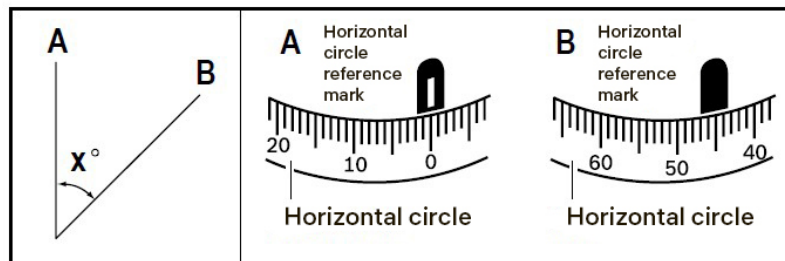

Figure 6
- Focus the device on the rod A. Rotate the horizontal circle (2) until the "0" mark is aligned with the reference mark (3) (Fig. 6).
- Focus the device on the rod B. Record the angle measurement of the reference mark (3) of the horizontal circle (Fig. 6).
The angle value in Figure 6 is 45°.